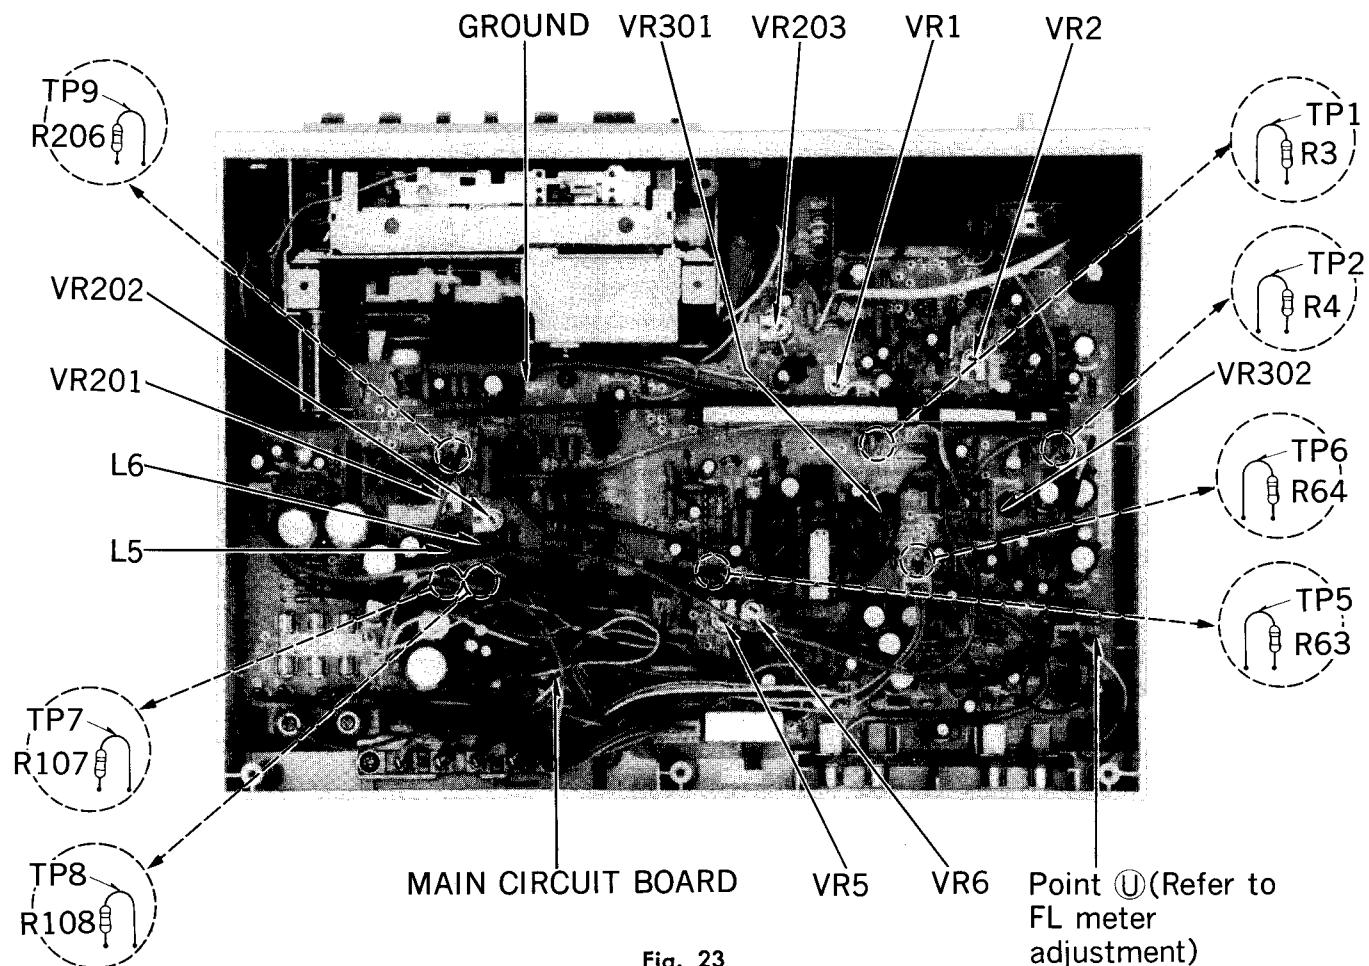
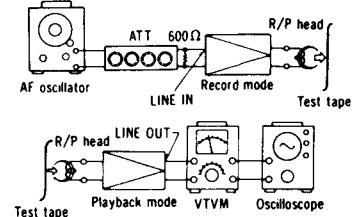
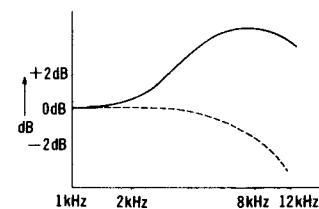

Fig. 23
Fig. 38
Fig. 41
E Playback gain <p>Condition: * Playback mode * Normal tape mode * Output level control ... MAX</p> <p>Equipment: * VTVM * Oscilloscope * Test tape ... QZZCFM</p>	<ol style="list-style-type: none"> Test equipment connection is shown in fig. 32. Playback standard recording level portion on test tape (QZZCFM 315Hz), and using VTVM measure the output level at LINE OUT jack. Make measurement for both channels. <div style="border: 1px solid black; padding: 2px; width: fit-content;"> Standard value: around 0.7V </div> <p>Adjustment</p> <ol style="list-style-type: none"> If measured value is not standard, adjust VR1 (L-CH), VR2 (R-CH) (See fig. 23). After adjustment, check "Playback frequency response" again.
<p>H Overall frequency response</p> <p>Condition:</p> <ul style="list-style-type: none"> * Record/playback mode * Normal tape mode * Fe-Cr tape mode * CrO₂ tape mode * Metal tape mode * Input level controls MAX * Output level control ... MAX * Standard input level MIC -72 ± 3.5 dB LINE IN ... -24 ± 3.5 dB <p>Equipment:</p> <ul style="list-style-type: none"> * VTVM * AF oscillator * ATT * Resistor (600Ω) * Test tape (reference blank tape) <ul style="list-style-type: none"> ... QZZCRA for Normal ... QZZCRX for CrO₂ ... QZZCRY for Fe-Cr ... QZZCRZ for Metal 	<p>Note:</p> <p>Before measuring and adjusting, make sure of the playback frequency response (For the method of measurement, please refer to the playback frequency response).</p> <ol style="list-style-type: none"> 1. Test equipment connection is shown in fig. 38. 2. Place the test tape (QZZCRA) in the cassette holder. 3. Set UNIT into record mode, and normal tape mode. 4. Supply 1 kHz signal from AF oscillator through ATT to LINE IN. 5. Adjust ATT so that input level is -20 dB below standard recording level (standard recording level = 0VU). 6. At this time, LINE OUT level indicates 0.07V. 7. Record each frequency 50 Hz, 70 Hz, 200 Hz, 600 Hz, 1 kHz, 2 kHz, 8 kHz, 10 kHz, and 12 kHz (14 kHz for CrO₂, Fe-Cr and Metal). 8. Playback and express in dB the difference between playback output level of each frequency based on playback output level of 1 kHz. 9. Make sure that the measured value is within the range specified in the overall frequency response chart (shown in fig. 30). 10. Change test tape to Fe-Cr (QZZCRY), CrO₂ (QZZCRX) and Metal (QZZCRZ). 11. Set UNIT into each tape mode. 12. Measure as same as manner from step (3) to step (8). 13. Make sure that the measured value is within the range specified in the overall frequency response chart for Fe-Cr, CrO₂ and Metal tape shown in fig. 31. <p>Adjustment using bias current</p> <ol style="list-style-type: none"> 1. When the frequency response between the middle and high frequency range becomes higher than the standard value, as shown by the solid line in fig. 41 increase, refer to bias current adjustment. 2. When it becomes lower, as shown by dotted line, refer to bias current adjustment. <p>Bias current adjustment</p> <ol style="list-style-type: none"> 1. Test equipment connection is shown in fig. 42. 2. Set UNIT into record mode, and normal tape mode. 3. Read voltage on VTVM and calculate bias current by following formula: $\text{Bias current (A)} = \frac{\text{Value read on VTVM (V)}}{10 (\Omega)}$ <div style="border: 1px solid black; padding: 5px; margin-top: 10px;"> <p>Standard value: around $350\mu\text{A}$ (Normal tape mode)</p> </div> <ol style="list-style-type: none"> 4. If measured value is not within standard, adjust VR201 (L-CH) and VR202 (R-CH). 5. Set the tape selector to each position. 6. Make sure that the measured value is within standard. <div style="border: 1px solid black; padding: 5px; margin-top: 10px;"> <p>Standard value: around $370\mu\text{A}$ (Fe-Cr tape mode) around $440\mu\text{A}$ (CrO₂ tape mode) around $700\mu\text{A}$ (Metal tape mode)</p> </div>
<p>① Overall gain</p> <p>Condition:</p> <ul style="list-style-type: none"> * Record/playback mode * Normal tape mode * Input level controls MAX * Output level control MAX * Standard input level <ul style="list-style-type: none"> MIC -72 ± 3.5 dB LINE IN ... -24 ± 3.5 dB <p>Equipment:</p> <ul style="list-style-type: none"> * VTVM * AF oscillator * ATT * Oscilloscope * Resistor (600Ω) * Test tape (reference blank tape) ... QZZCRA for Normal 	<ol style="list-style-type: none"> 1. Test equipment connection is shown in fig. 38. 2. Place UNIT into record mode, and normal tape mode. 3. Supply 1kHz signal (-24 dB) from AF oscillator, through ATT to LINE IN. 4. Adjust ATT until monitor level at LINE OUT becomes 0.7V. 5. Using test tape, make recording. 6. Playback recorded tape, and make sure the value at LINE OUT on VTVM becomes 0.7V. 7. If measured value is not 0.7V, adjust VR5 (L-CH), VR6 (R-CH) (See fig. 23). 8. Repeat from step 2.
<p>② Fluorescent meter</p> <p>Condition:</p> <ul style="list-style-type: none"> * Record mode * Input level controls MAX * Output level control MAX <p>Equipment:</p> <ul style="list-style-type: none"> * VTVM * AF oscillator * ATT * Resistor (600Ω) 	<ol style="list-style-type: none"> 1. Test equipment connection is shown in fig. 38. 2. As shown in fig. 43, connecting the base of Q302 (Point ①, see fig. 23 on page 6) and ground stops the oscillation of the astable multivibrator comprising Q302 and Q303. 3. Supply 1 kHz signal (-24 dB) to the LINE IN jack, then press the record button. 4. Adjust the ATT so that the output level at LINE OUT jack becomes 0.7V (The input level at this condition is termed the standard input level). 5. Adjustment at "-20 dB". <ol style="list-style-type: none"> A. Adjust the ATT so that input level is -20 dB below standard recording level. B. Adjust VR301 so that the -20 dB segment lights up in the -20 dB ± 0.8 dB range (L-CH ONLY) (See fig. 44). 6. Adjustment at "0 dB". <ol style="list-style-type: none"> A. Adjust the ATT so that the output level at LINE OUT jack becomes 0.7V. (The input level at this condition is termed the standard input level.) B. Adjust VR302 so that the $+1$ dB segment lights up in the 0 ± 0.2 dB range of the standard input level (See fig. 45). 7. Repeat twice between steps 5 and 6 above. 8. Adjust ATT and check that all segments light up when an input signal level is increased to 10 dB higher than the standard input level (See fig. 46).  <p>Fig. 43</p>